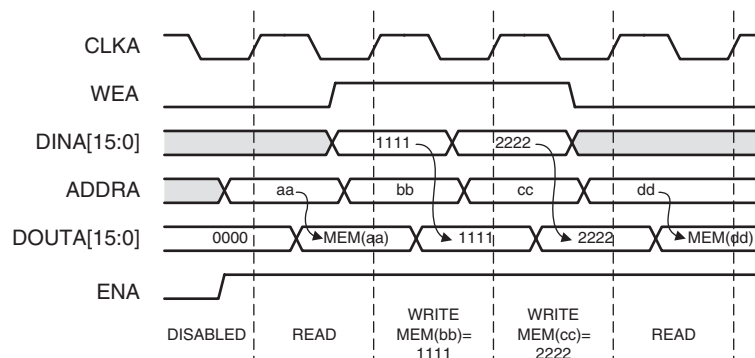

Figure 8: Write First Mode Example
- **Write First Mode:** In WRITE_FIRST mode, the input data is simultaneously written into memory and driven on the data output, as shown in Figure 8. This transparent mode offers the flexibility of using the data output bus during a write operation on the same port.